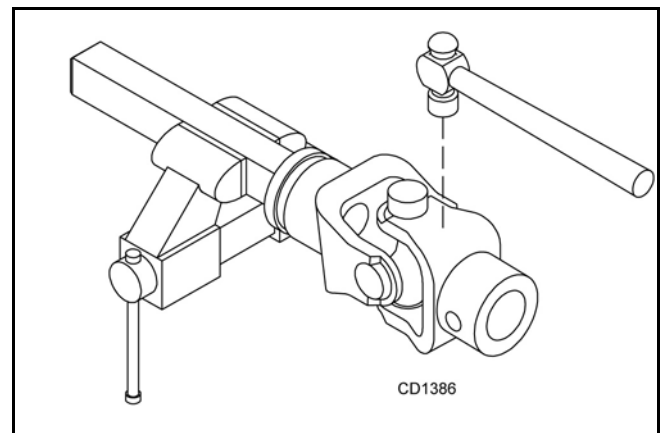

Figure 18.
2. With snap rings removed, support drive in vise, hold yoke in hand, and tap on yoke to drive cup up out of yoke. See Figure 18.